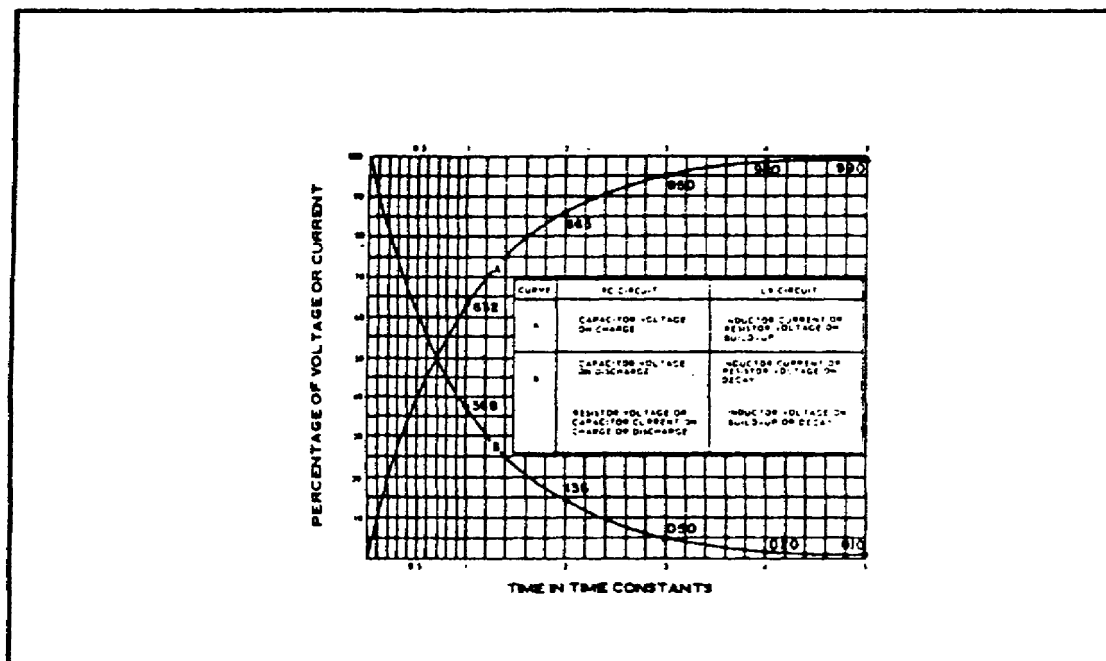

FIGURE 37. UNIVERSAL TIME CONSTANT CHART FOR RC AND RL CIRCUITS.
j. *Universal Time Constant Chart.* Because the impressed voltage and the values of R and C or R and L, in a circuit are usually known, a UNIVERSAL, TIME CONSTANT CHART (figure 37 on the following page) can be used to find the time constant of the
Find the value of RC by referring to the universal time constant chart in figure 37, on the previous page, and proceed as follows: